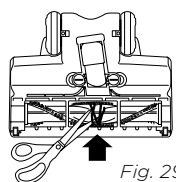

Fig. 29
- 3 Remove any string, carpet fibers or hair that may be wrapped around the brushroll. **(Fig. 29)**